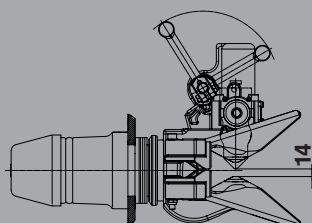

Fig. 10
Note: Should the drawbar eye not activate the coupling pin during hitching this can be because: The necessary standby gap (gap between the drawbar eye and the coupling pin) is insufficient (see Fig. 10).
- Gap between lower edge of coupling pin and support must be **14 mm** (see Fig. 10).